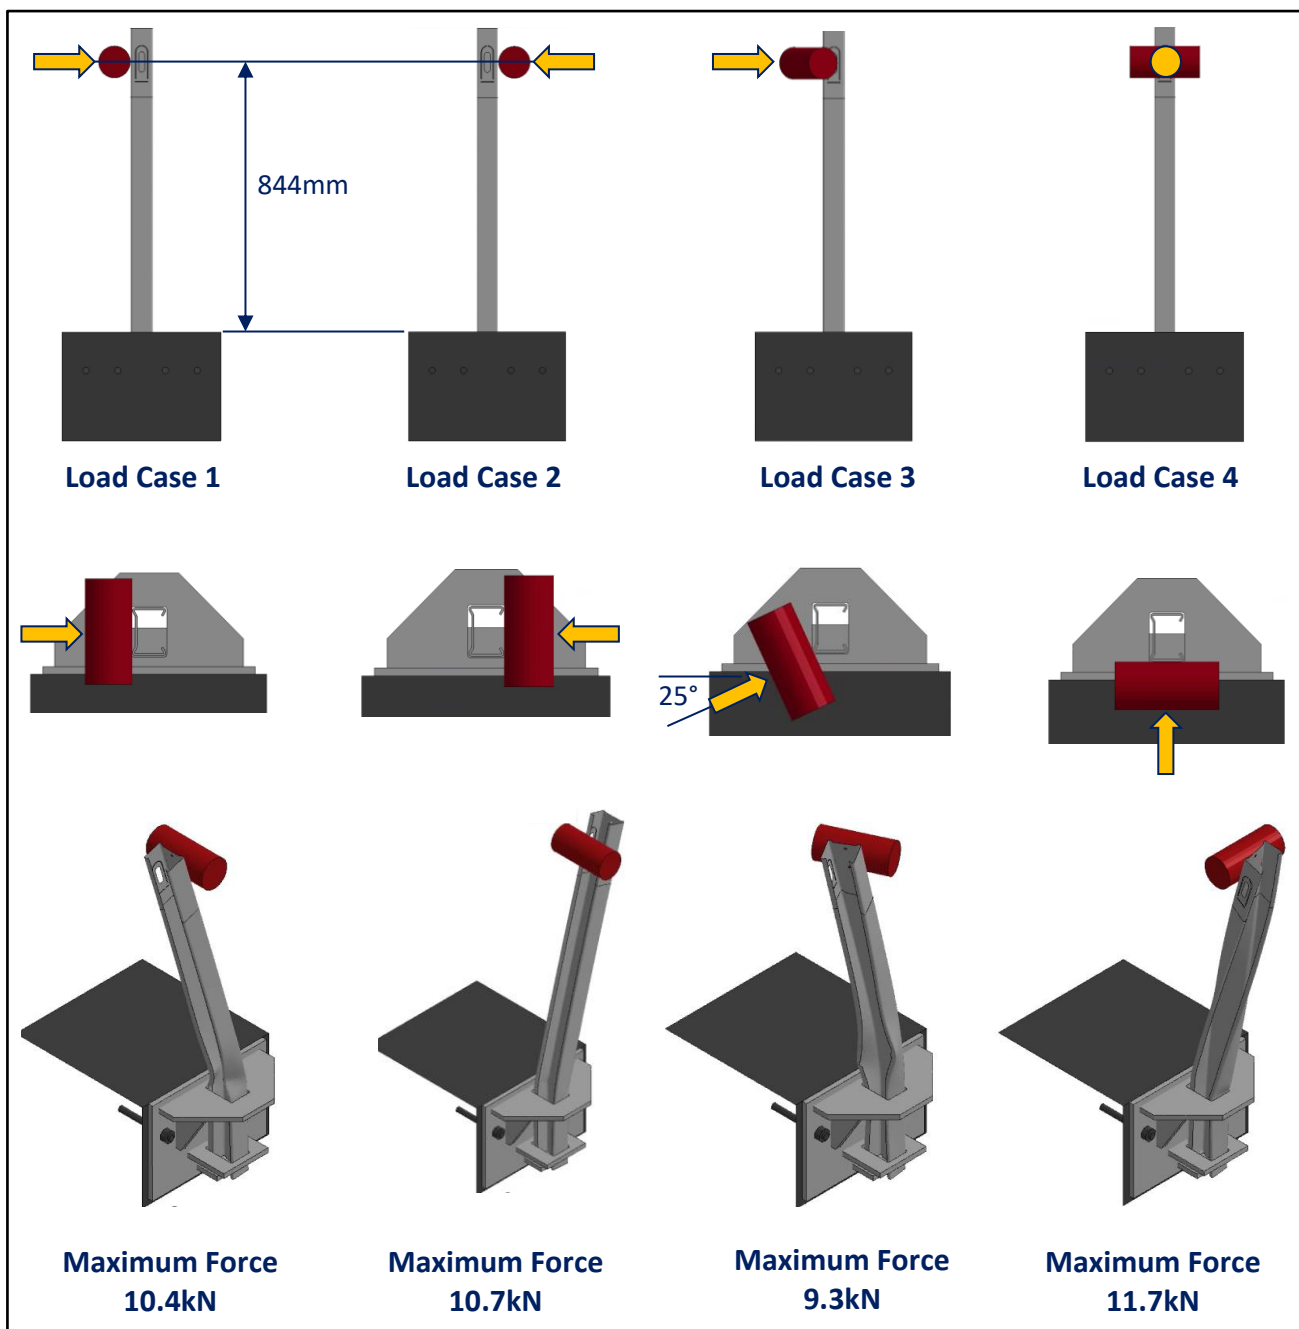

Figure 4: Load Analysis: Side Mount Posts.
To assist designers, Safe Direction has undertaken RamShield® post capacity analysis using LS-Dyna. Analysis was undertaken for side-mounted posts and baseplate posts using four (4) load conditions as described in Figures 4, 5 & 6. This ensures the maximum loading condition is identified.